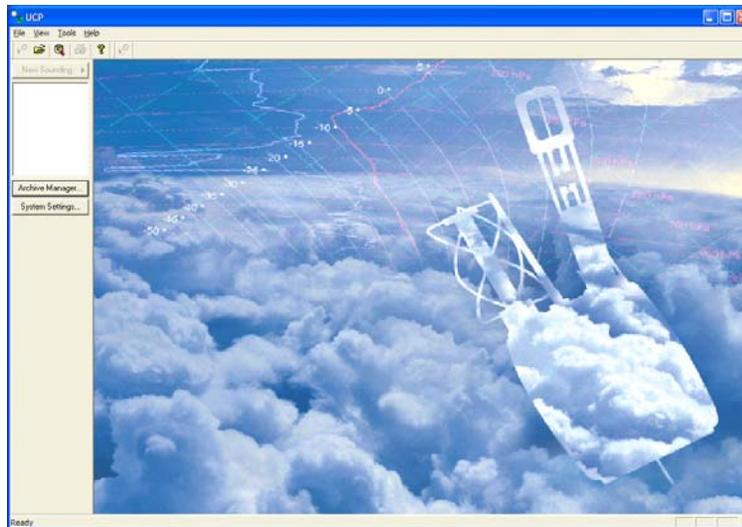

Figure 3: DigiCORA III initial screen
25. Go to the BBSS computer to start the DigiCORA program. If it is already open, the screen should look like the following (Figure 3).
26. If the screen (Figure 3) is not displayed, double-click on the DigiCORA icon on the desktop.